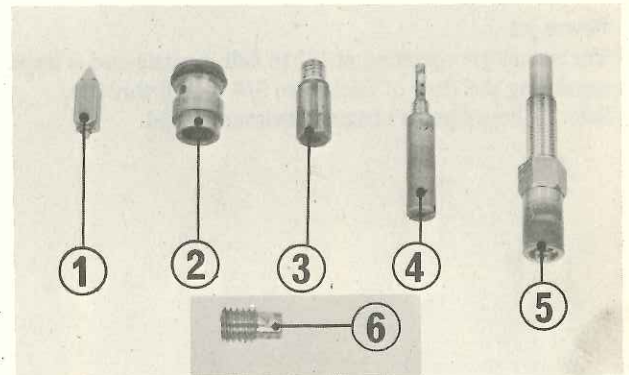

Fig. 3-84 (1) Float valve
(2) Jet holder
(3) Jet needle set plate
(4) Jet needle
(5) Baffle plate
16. Remove each part as shown in Fig. 3-84.